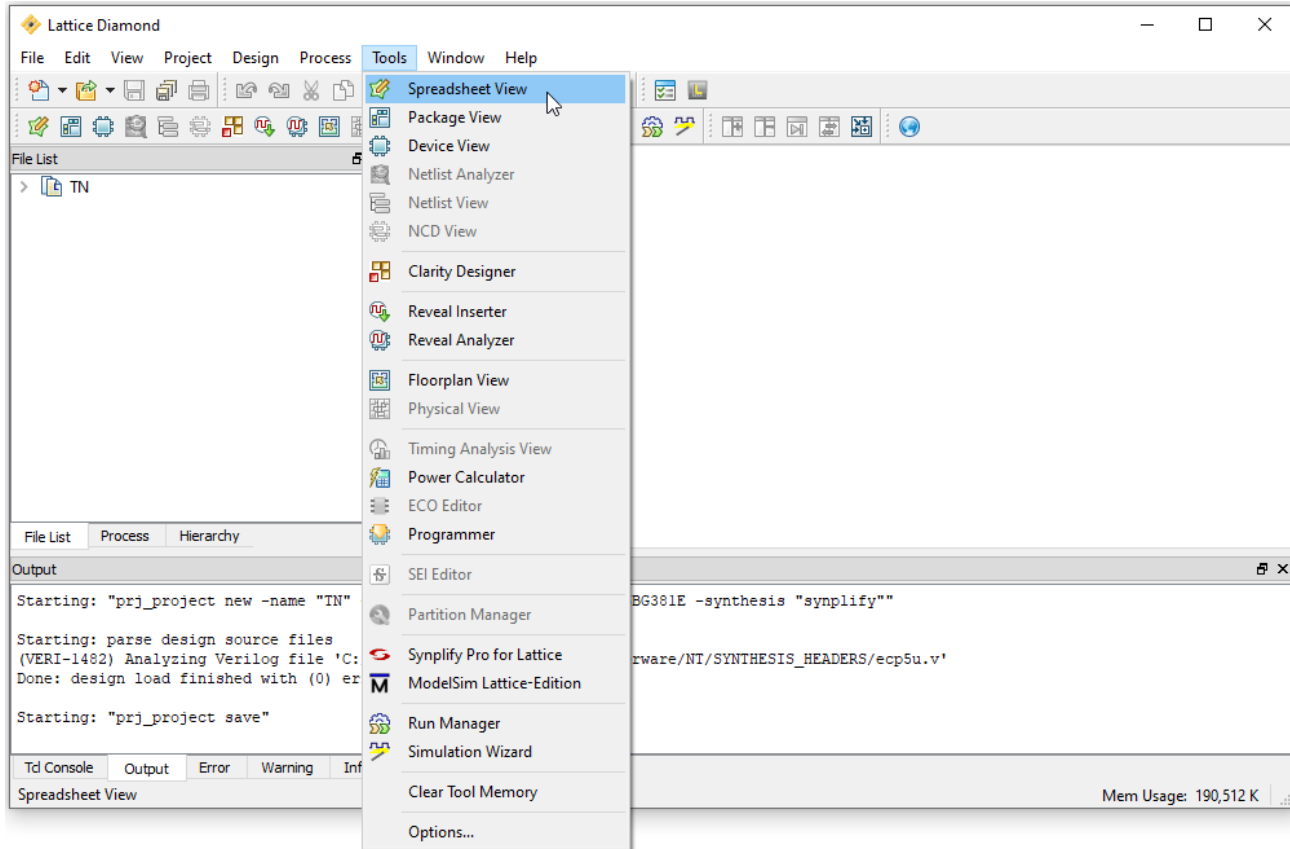

Figure 3.1. Lattice Diamond Software – Spreadsheet View
1. In Lattice Diamond Software, the **Spreadsheet View** allows you to select the image for PRIMARY_BOOT and the image for SECONDARY_BOOT. Open **Spreadsheet View** by clicking on the **Spreadsheet View** icon () or go to **Tools > Spreadsheet View**, as shown in Figure 3.1.